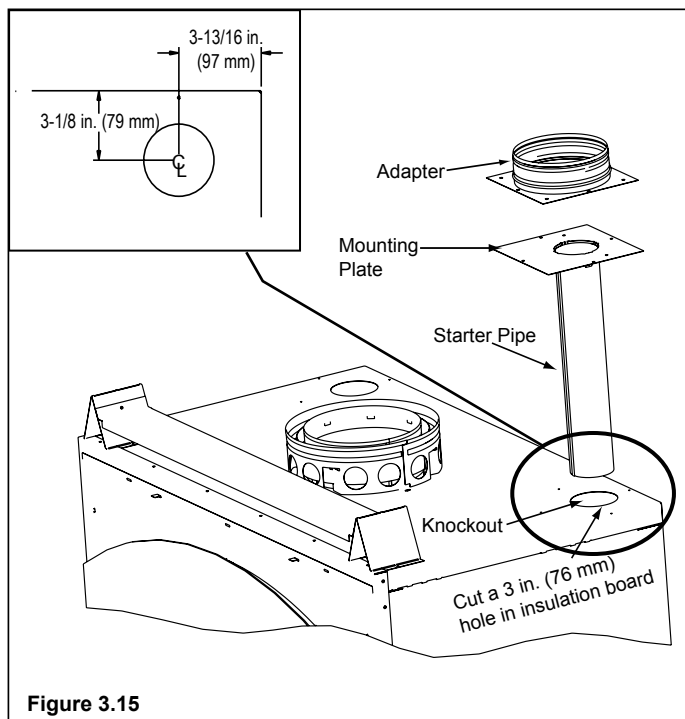

Figure 3.15
- Remove the knockout or cover plate from the top of the fireplace and discard it. See Figure 3.15.
- Cut a 3 in. (76 mm) hole in the insulation board as per the dimensions shown in Figure 3.15.